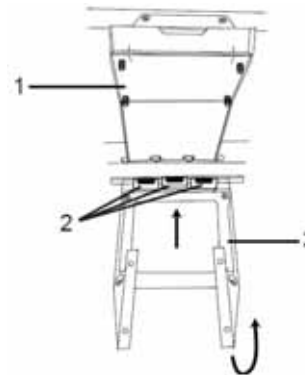

FIGURE 55
- 3.) WITH THE TOP DVD MOUNTING BRACKET INSTALLED (1), SLIDE THE THREE TABS (2) ON THE FORWARD SIDE OF THE BOTTOM DVD MOUNTING BRACKET (3) SO THAT THE TABS GRIP THE ROOF BOW. (SEE FIGURE 55)